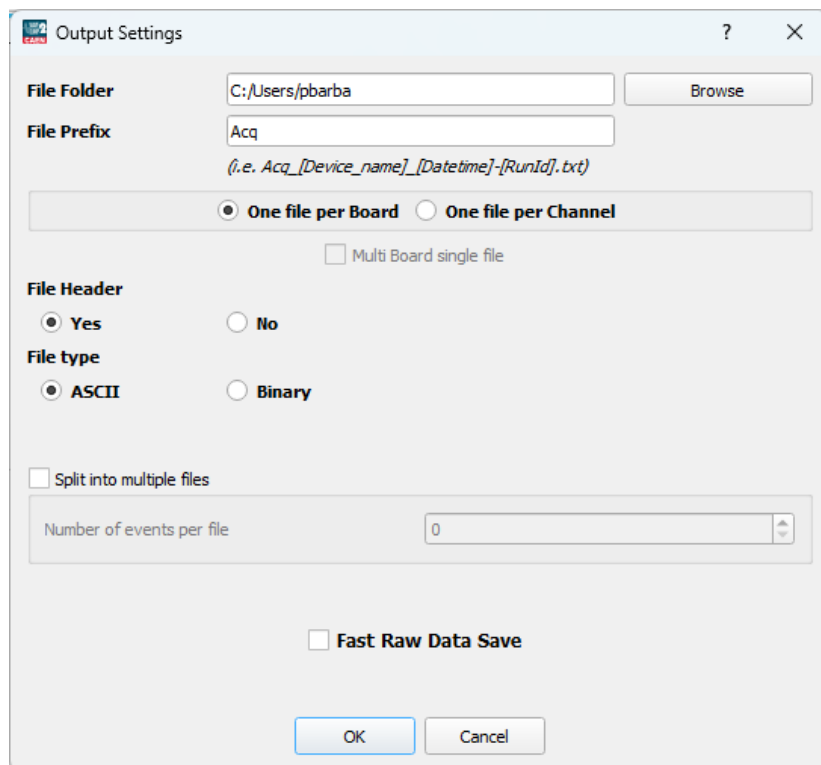

Fig. 23.1: The Output Settings dialog box
**Note:** In the case of the “One file per Channel” option selected (see **Fig. 23.1**), the “Channels” info is not present in the header of each file.